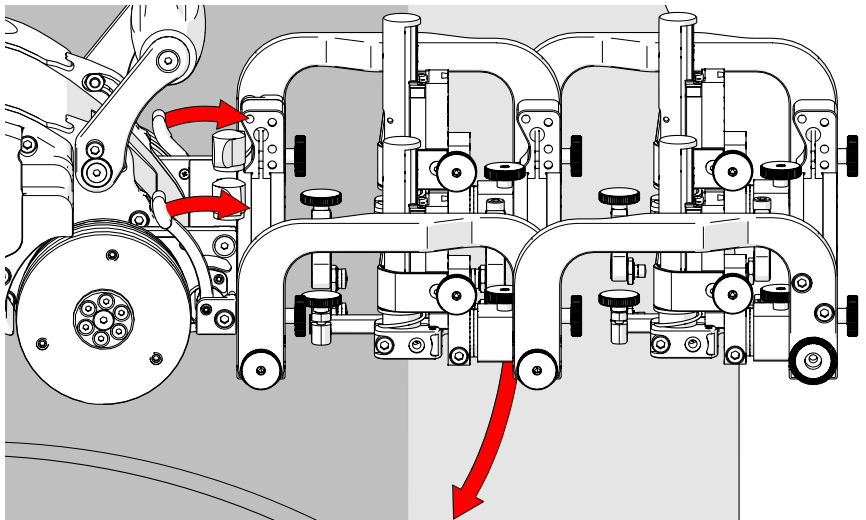
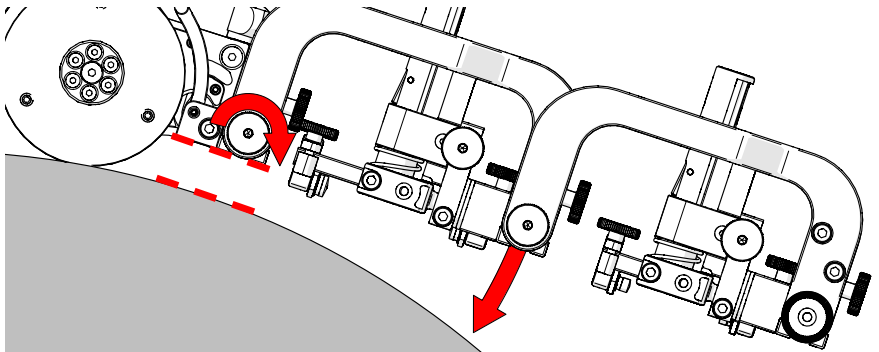

Fig. 145 - Align swivel mount with scan surface
Fig. 146 - Set rear rotational adjustment knob
3. Mount the probe holder frame to the crawler (*see Cable Retainer on page 45 for additional details*). When mounting the probe holder frame, ensure the attachment knobs (*Fig. 145*) are at the front (*non crawler side*).
4. Release the two swivel mount levers (*Fig. 145*) to position the swivel mount parallel to the scan surface (*Fig. 146*). When alignment with scan surface is achieved, lock the crawler swivel mount levers.
5. Loosen the rear rotational adjustment knob to lower the weld scan frame towards the inspection surface (*Fig. 146*).